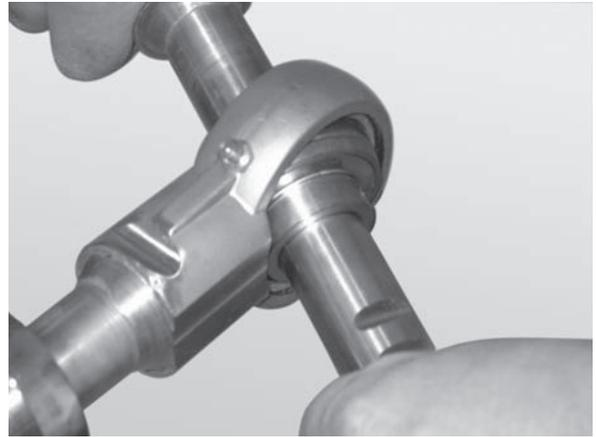

**Figure 73**
- Install pinch guard shaft (**Figure 73, item 1**) onto pinch guard (**Figure 73, item 2**).
- Install pinch guard (**Figure 73, item 2**) onto alignment bar (**Figure 73, item 3**), and onto each side of drive spindle (**Figure 73, item 4**).
- Install bearing shaft assembly (**Figure 73, item 5**) onto rod (**Figure 73, item 1**) and drive spindle (**Figure 73, item 4**). Slide bearing shaft assembly onto the drive spindle on opposite side.
- Use a hex wrench to install the two set screws (**Figure 73, item 6**). Use a torque wrench to tighten them to 54 in•lbs (6 N•m). Check after 24 hours of conveyor use.
- Attach the bearing cover onto bearing shaft assembly (**Figure 73, item 5**).